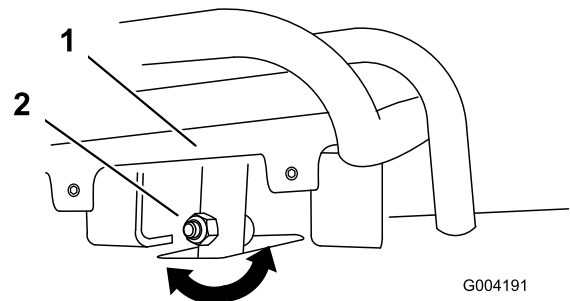
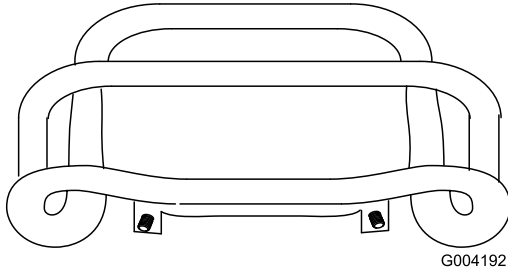

Figure 50
Figure 51
4. If the front of the traction control does not rest square and flush with the reference bar, loosen the flange nut and bolt in the stem of the traction control (Figure 50).
- Adjust the traction control so that it rests flush against the reference bar when it is pulled straight back (Figure 50 and Figure 51).